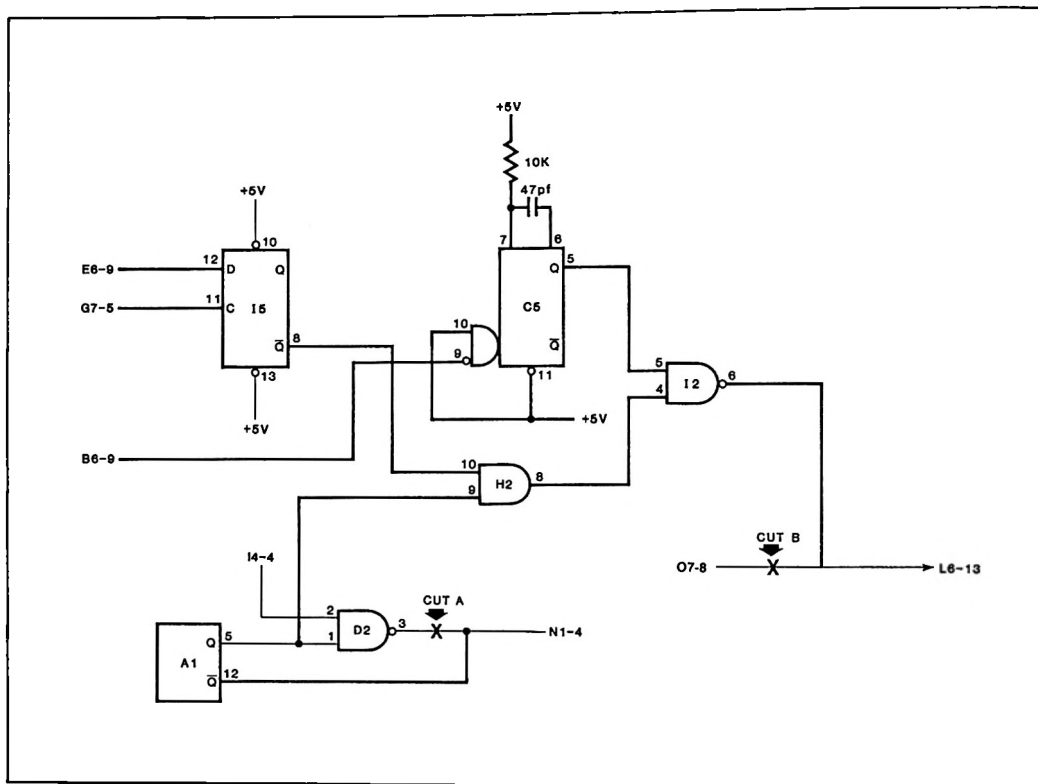

Figure 1
1. On foil side of CK-3 Board, add the following jumpers. (See Figure 1):